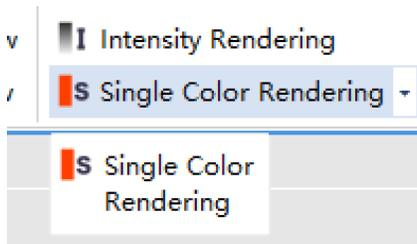

Figure 3-16 Single Color Rendering
- (1) Click on the arrow part, the drop-down menu will pop up (Figure 3-16).